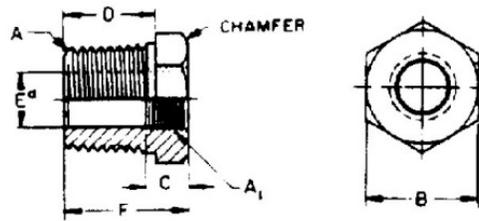

Figure 5 - Reducer bushing (130140)
**Table 3 - Dimensions of reducer bushings (Figure 5)**